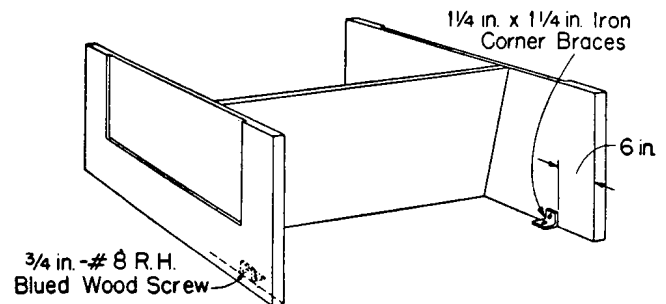
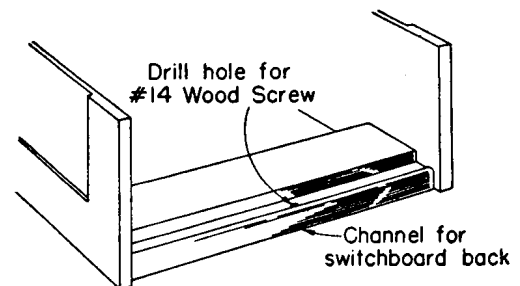
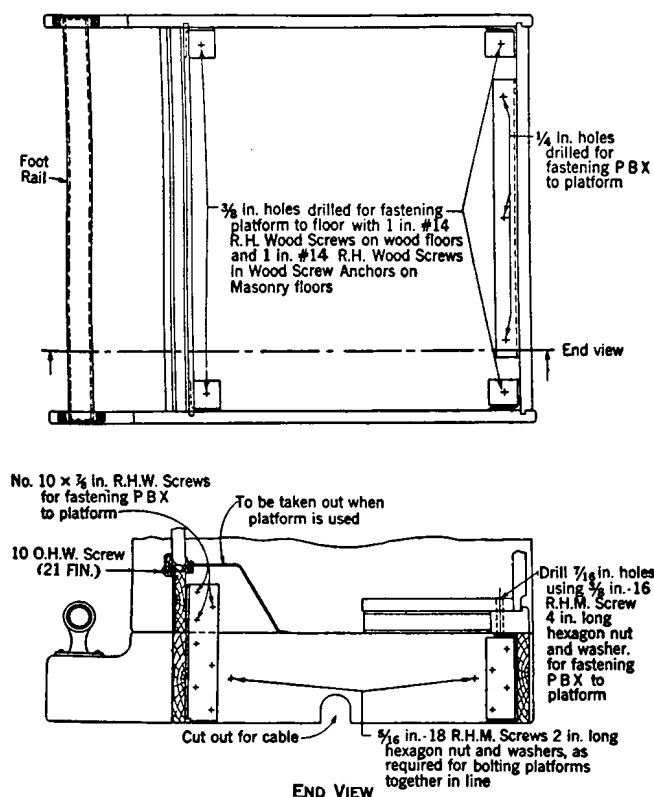

Fig. 1—Front-Fastening Information
Fig. 2—Back-Fastening Information
Fig. 3—Switchboard Platform
- 3.09 Fasten to floor where practicable by means of 1¼-in. by 1¼-in. or equivalent iron corner braces, placing one at the base of each end panel on the inside and approximately 6 inches in from the front as shown in Fig. 1. Also fasten rear of PBX to floor with one No. 14 F. H. Steel Wood Screw or equivalent installed in base of channel for PBX backboard panel as shown in Fig. 2.
- 3.11 Cut a cable hole in the platform on the side through which cable will enter the PBX. Also cable holes shall be cut through the center section of the platforms so that the cable may be extended into the second section. These holes shall be directly below the location of the hole in the PBX end panel as shown in Fig. 3. (One platform is required for each section of No. 551B or No. 552B PBX when two sections are lined up together. When two sections of No. 551A PBX are lined up together no platforms are required.)
- 3.12 Bolt the platforms together in line. See Fig. 3.
- 3.13 Fasten each platform to the floor where practicable by means of the four corner angle iron details as shown in Fig. 3 or by 1¼-in. by 1¼-in. iron corner braces installed similar to Fig. 1 in the front and two 1¼-in. by 1¼-in. iron corner braces placed approximately 6 inches from each end of the platform on the rear.
- 3.14 Mount and fasten PBX sections on the platforms as shown in Fig. 3.